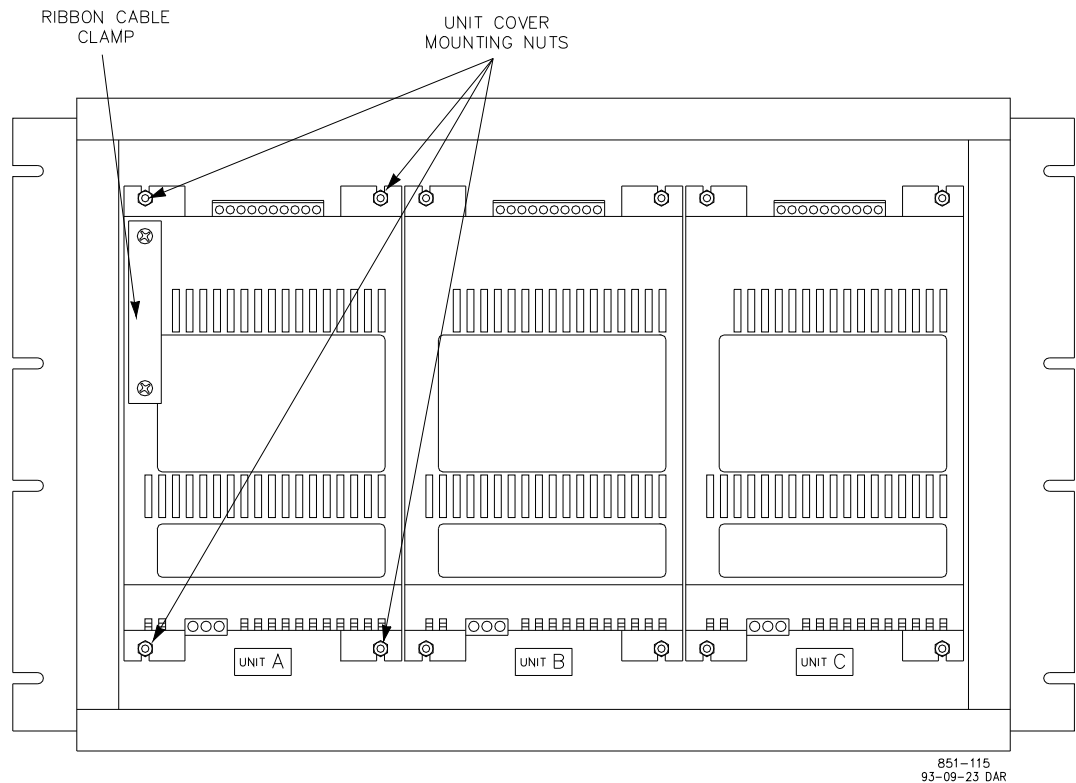

Figure 5-2. Unit Covers Inside the ProTech Device
3. If you're replacing a fuse in Unit A, remove the ribbon-cable clamp and retain for use when re-installing the cover (Figure 5-2).
4. Unplug the power supply board terminal block, then unplug the I/O board terminal block (Figure 5-2).
5. Remove the four nuts on the unit's cover, and carefully lift the cover off (Figure 5-2). Retain the cover and the nuts to be reinstalled after changing the fuse.
9. If you've been working on Unit A, replace the ribbon-cable clamp onto the cover (Figure 5-2).
3. If you're replacing Unit A, remove the ribbon-cable clamp and retain for use when installing the replacement unit (Figure 5-2).
5. Remove the four nuts on the unit's cover, and carefully lift the cover off (Figure 5-2). Retain the cover and the nuts to be reinstalled with the replacement unit.
13. If you've replaced Unit A, replace the ribbon-cable clamp onto the cover (Figure 5-2).